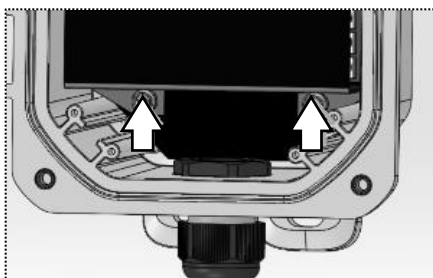

Figure 1A. Remove Wiring Compartment Bracket
1. Open the enclosure cover and remove the metal bracket by undoing the two bottom screws. These are captive screws and will remain attached to the bracket. See Figure 1A.